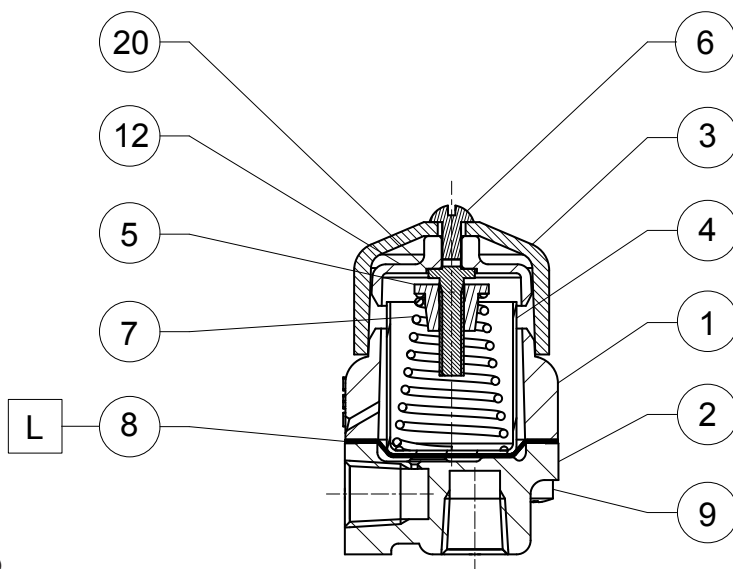

Figure 4. Indicator Assembly Drawing
7. See Figure 4. To adjust the indicator remove the screw (key 6) and the lens (key 3). Using a small slotted screw driver, turn the adjusting screw clockwise to increase the pressure or